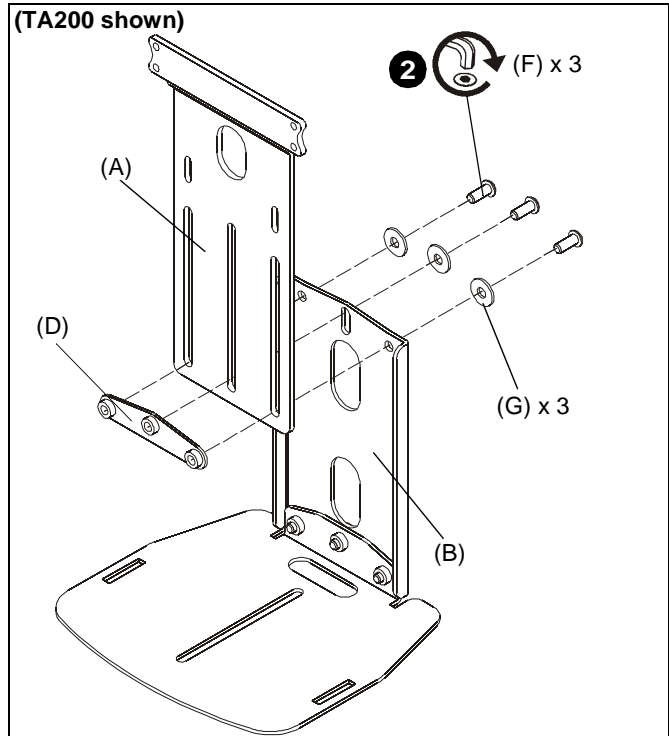

Figure 2
2. If using extension bracket, use three 1/4-20 x 5/8" button head cap screws (F) and three 1/4" washers (G) to attach extension bracket (B) to attachment bracket (A). (See Figure 2)